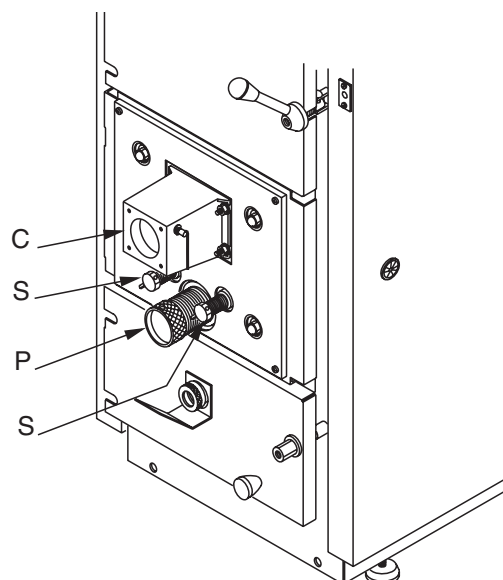
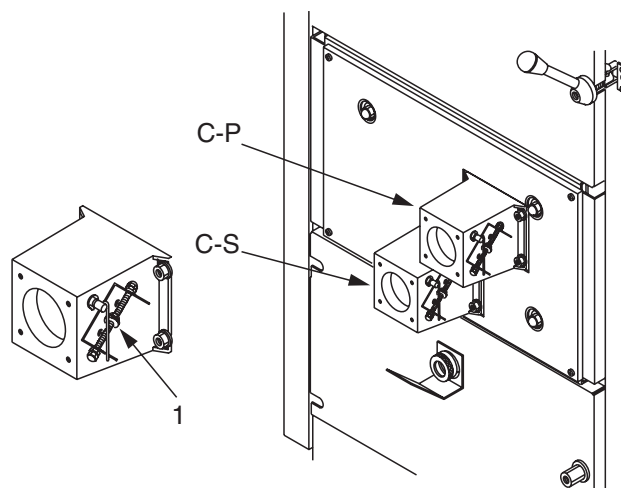

fig. 27
fig. 28
For the models **AIREX 25 2S, AIREX 40 2S, AIREX 50 2S (fig. 27):**
Or the models **AIREX 65 2S, AIREX 80 2S (fig. 28):**
The starting position the rings (pos. 1, fig. 28) that command the opening or closing of the primary and secondary air should be about halfway on the threaded rod.
At this point, "screw" or "unscrew" the rings (pos. 1, fig. 28) on the threaded rod until obtaining an optimal air adjustment observing the color of the flame in the lower combustion chamber.
The boiler AIREX has a combustion air intake fan (POS. 7 fig. 2), a distribution collector of the combustion air (POS. 1 fig. 27) and regulators of primary air (POS. fig. 27) and secondary air (POS. S fig. 27). (N°2 fan for the models AIREX 652S and AIEREX 802S + N°2 collectors primary and secondary air inlet with its regulations, see fig.28)